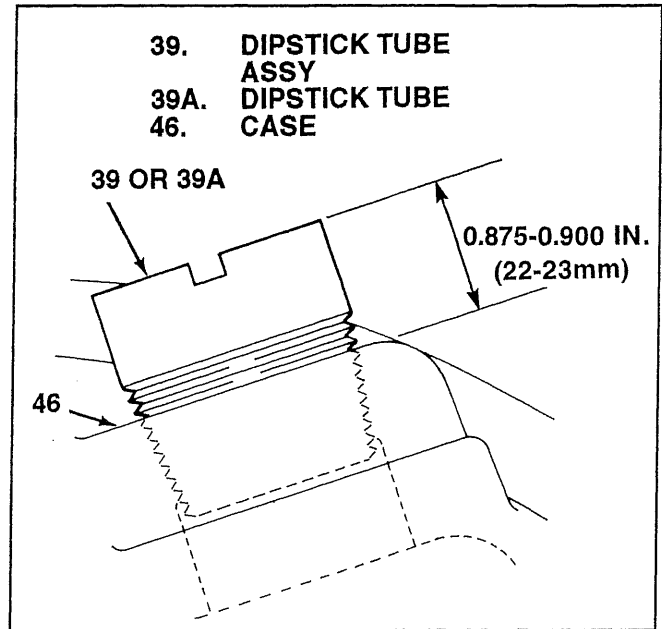

Figure 5-24. Dipstick Tube Installation
e. Select shim(s) of thickness  $T_2 \pm 0.0010 \text{ in. } (\pm 0.025 \text{ mm})$  and install on face of bearing cup (30) at input shaft. Install thinnest shim(s) down against bearing cup, thickest shim(s) up to bear against valve and pump assembly (4) when installed.
3. With gasket (5) in position on pump mounting face of case assembly (41), install valve and pump assembly (4) and attach with seven bolts (3). Torque bolts to 24-34 lb-ft (33-46 Nm).
4. Install drain plug (2) and torque to 20-25 lb-ft (27-34 Nm).
5. Install dipstick tube assembly (39 or 39A) to a height of 0.875-0.900 (22-23mm). Install dipstick (1 or 1A). (See figure 5-24)